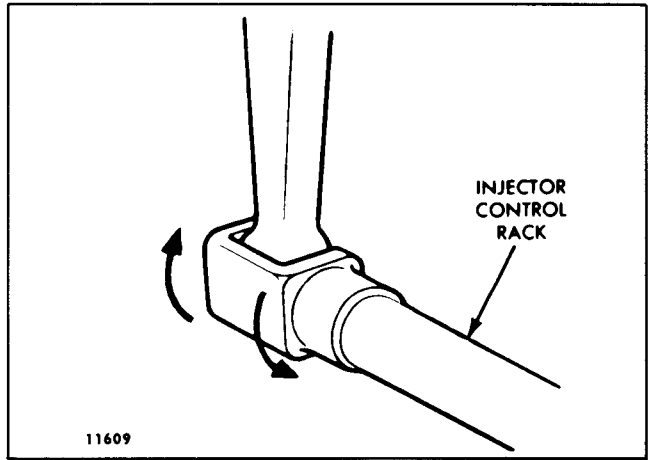
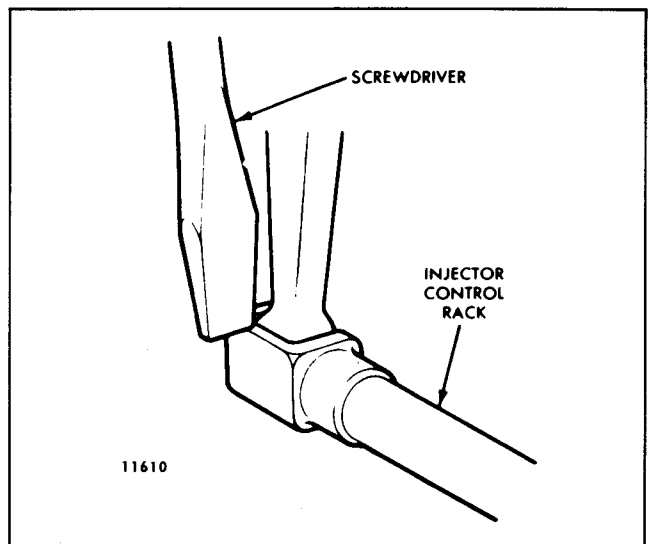

Fig. 4 - Checking Rotating Movement of Injector Control Rack
Fig. 5 - Checking Injector Control Rack "Spring"
7. To be sure of the proper rack adjustment, hold the speed control lever in the *maximum speed* position and press down on the injector rack with a screwdriver or finger tip and note the "rotating" movement of the injector control rack when the speed control lever is in the *maximum speed* position (Fig. 4). Hold the speed control lever in the *maximum speed* position and, using a screwdriver, press downward on the injector control rack. The rack should tilt downward and when the pressure of the screwdriver is released, the control rack should "spring" back upward (Fig. 5).